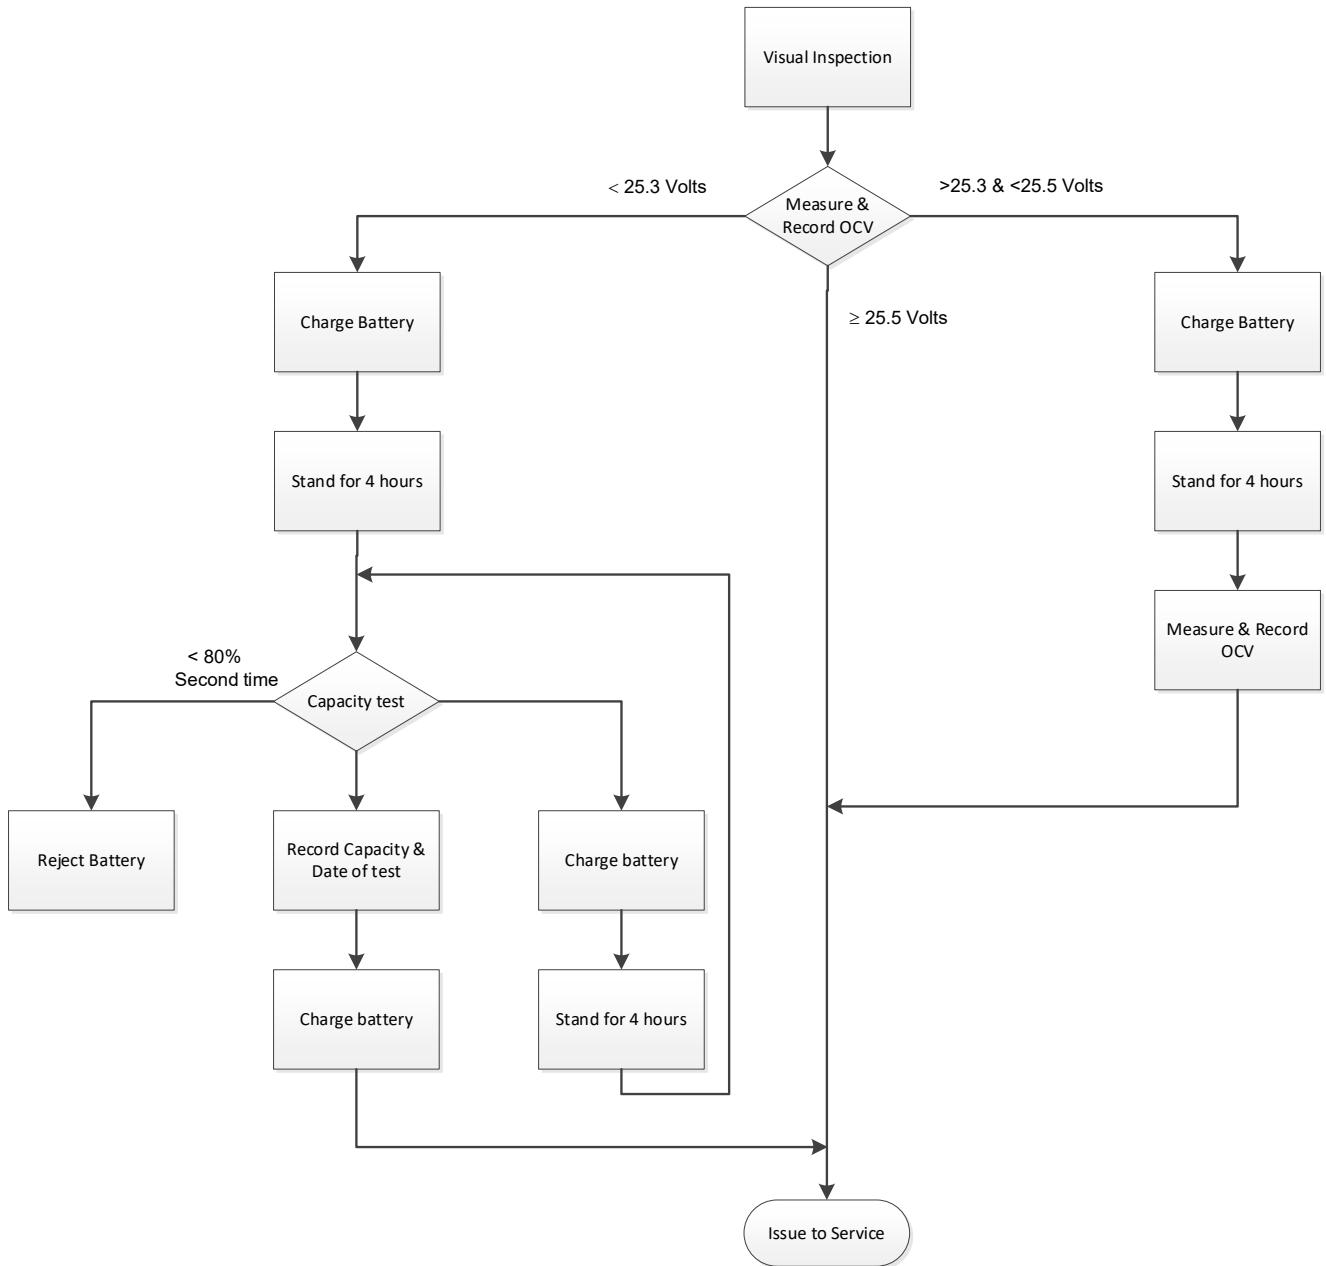

Figure 5 – Battery Commissioning Flowchart
F. Commissioning Procedure (*Refer to Figure 5 – Battery commissioning flowchart*)